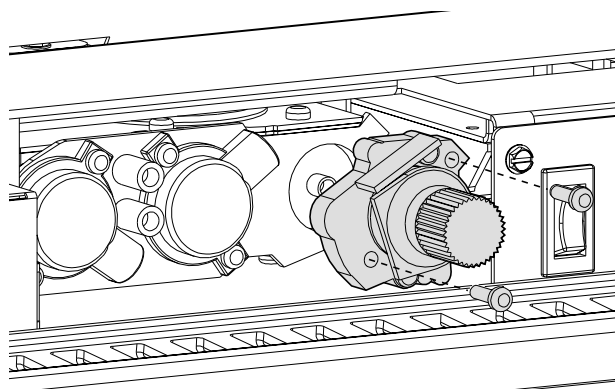

Figure 17. Replacing the regulator.
9. Replace the variable regulator on the gas control valve. See fig. 17. Remove the regulator tower and the rubber diaphragm.